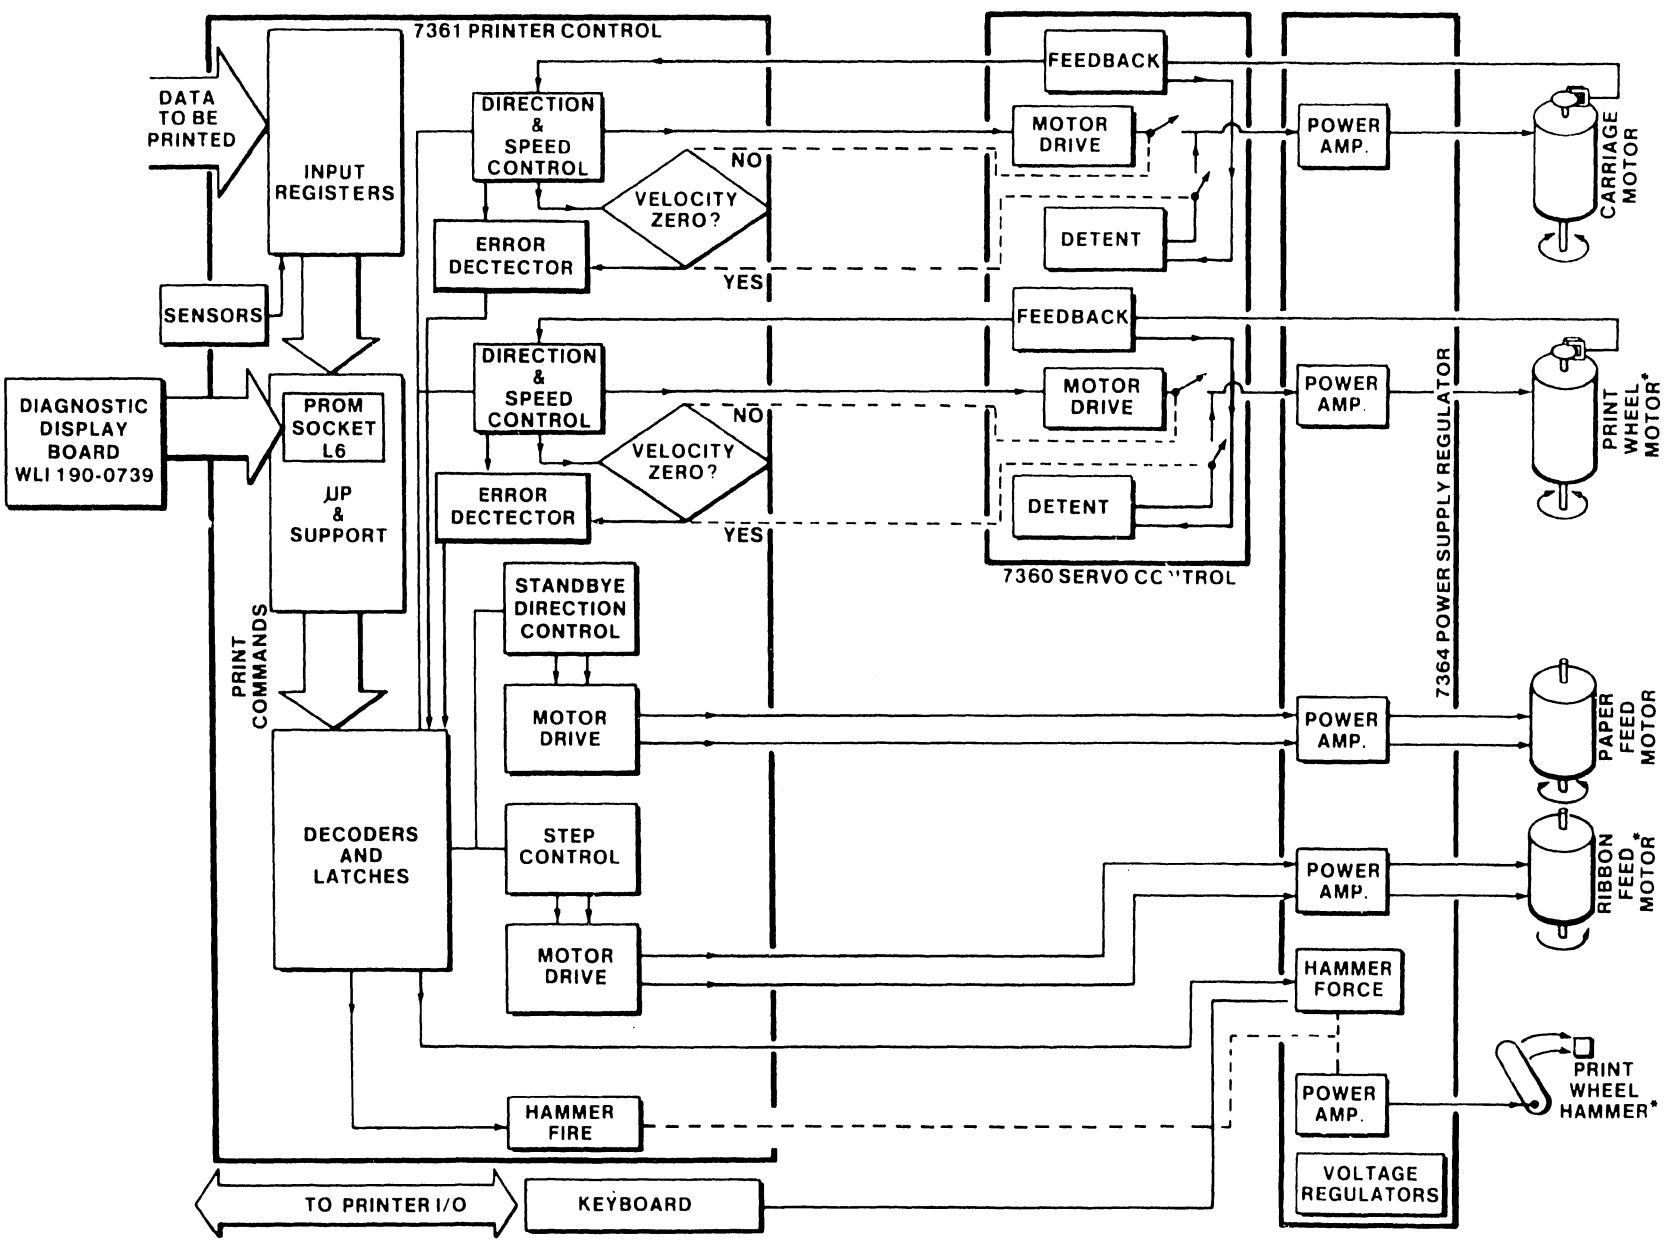

FIGURE 4-1 PRINTER FUNCTIONAL BLOCK DIAGRAM
4.1 GENERAL DESCRIPTION (See Figure 4-1)